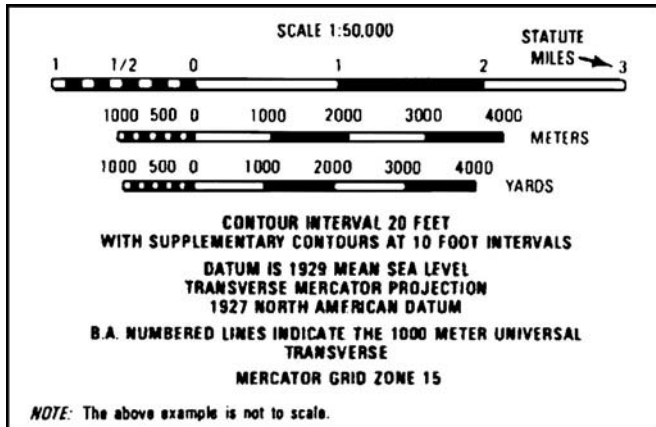

Figure 071-329-1008-1. Bar scales
2. Convert a straight-line map distance to miles, meters, or yards using the map's bar scale (figure 071-329-1008-1).